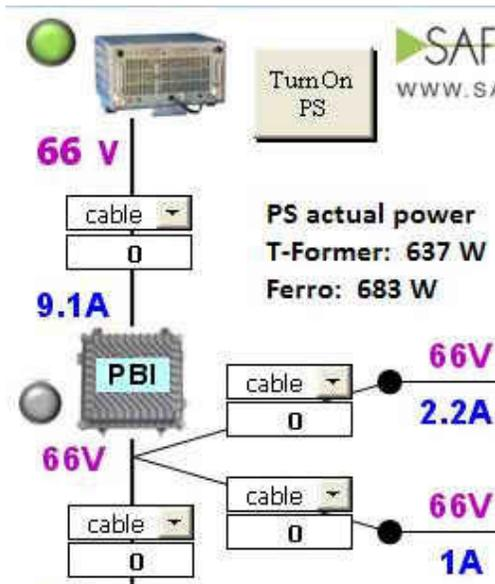

Fig.11 Backup span set to zero
1. The cable span between PS and the first splitting point we'll reserve for DPS backup calculation and set it meanwhile to "0". For backup calculation this span will be set to 600m of cable QR-860 (the blue line marked QR8-600m connected to the DPS on the map) See Fig.11